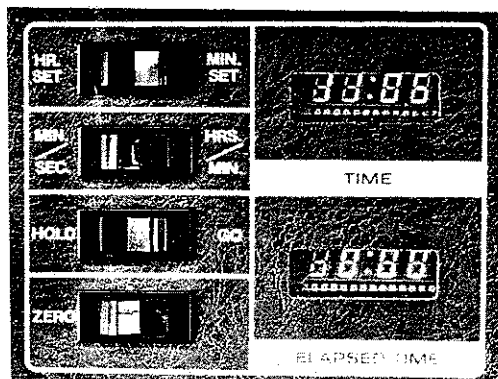

Figure 2-5. Digital Clock/Elapsed Time Display
- ⑪ **CLOCK PANEL** — As shown in figure 2-5, this panel includes a digital readout. Four switches to the left of the display set clock timing. To set **TIME** display, press **HR SET/MIN SET** switch to **HR SET** position and hold until correct hour is displayed; repeat with switch in **MIN SET** position until correct minutes are displayed.